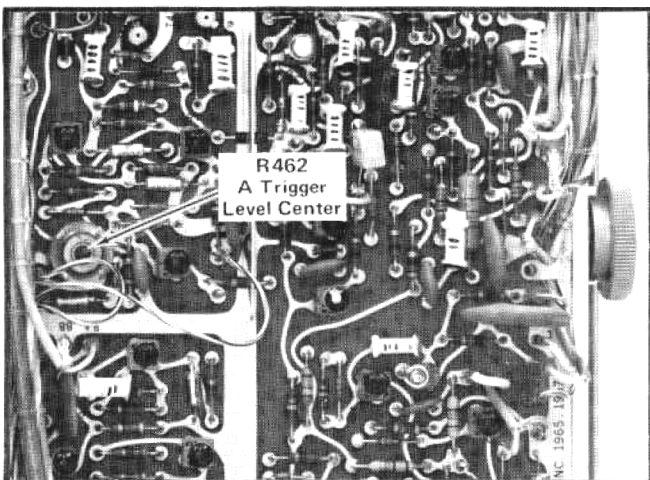

Fig. 5-11. Location of A Triggering adjustment (A sweep board).
f. ADJUST—A Trigger Level Center adjustment R462 (see Fig. 5-11) for a stable display.